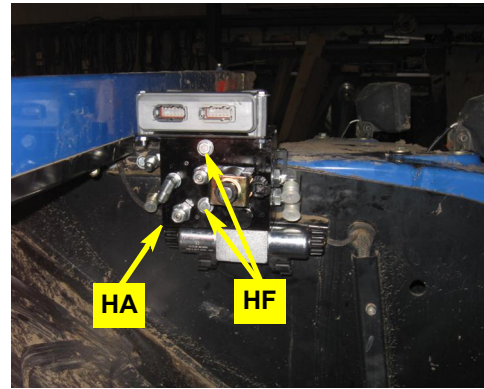

Figure 3: Installed steering block
- b. Mount **HA** with its **A** and **B** ports in toward the tractor (Figure 3).
- c. Figure 3 shows a gray control box that is used with eDriveX/XC controllers only. For detailed install instructions refer to the eDriveX/XC ECU install guide